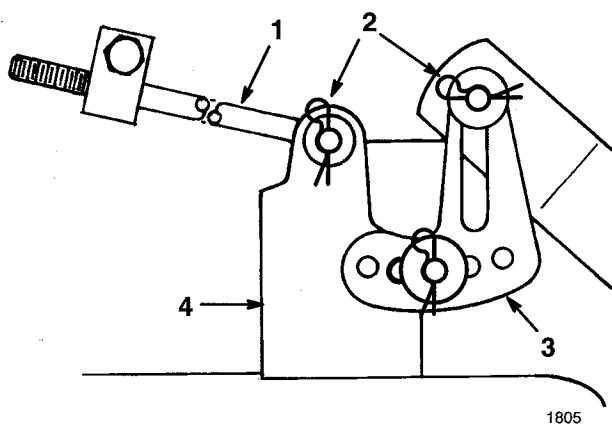

Figure 40
- Slide the end of the long rod through the hole in the mower mount (Fig. 40). Install the washer and hair pin cotter to secure the rod in place. Repeat this step on the opposite side of the mower.
- Mount the slotted mower leveling bracket onto the pin on the height-of-cut arm (Fig. 40). Install the washer and hair pin cotter to secure the mower. Repeat this step on the opposite side of the mower.